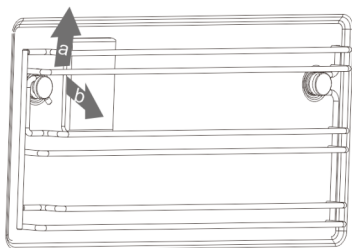

Figure. 1
1. Lift the racks at the front and pull out (figure.1)
1. Insert the rail into the rear socket.(Fig.1)